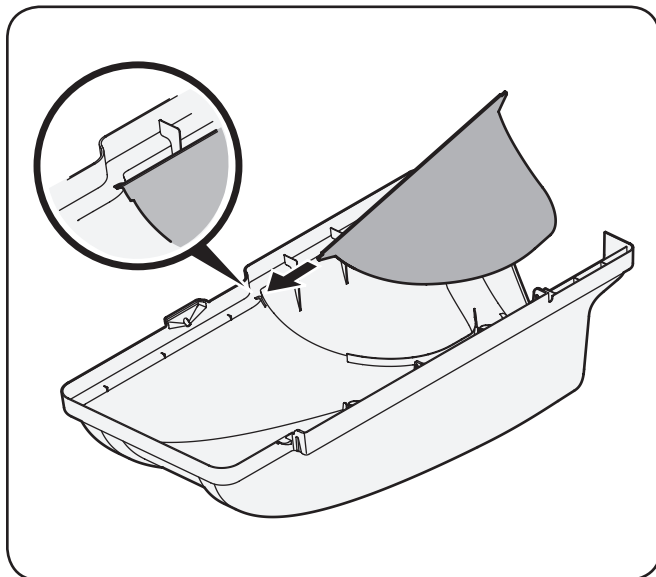
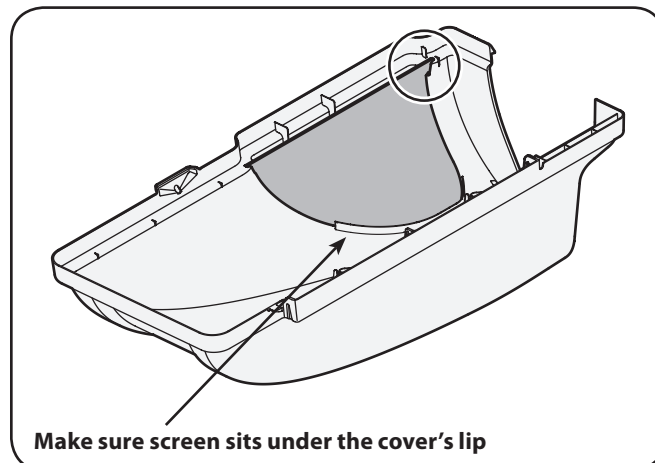

Figure 4-10
Figure 4-11
3. Install the bagger screen into the bagger cover by first inserting the end closest to the center into the cutout mounting hole, as in Figure 4-10. Make sure to feed the screen under the lip, as in Figure 4-11.
4. Clip in the other side by flexing the screen and pushing it down into the provided cutout hole. See Figure 4-11.